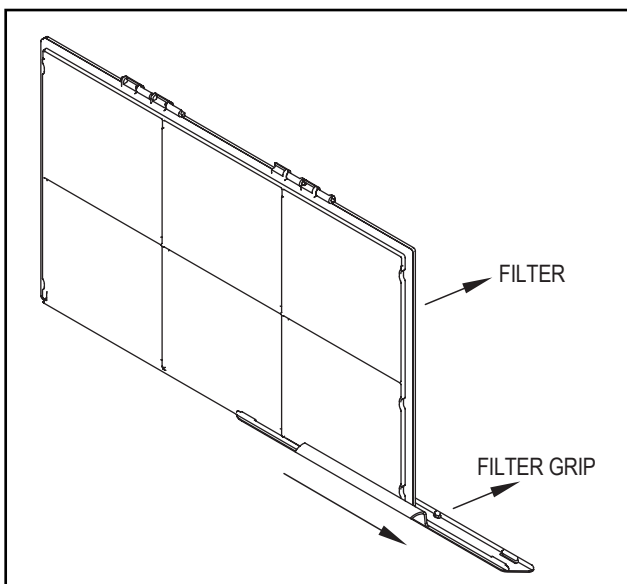

Figure C.7.3
STEP 2. Slide the filter grip out from the filter as shown in Figure C.7.3.